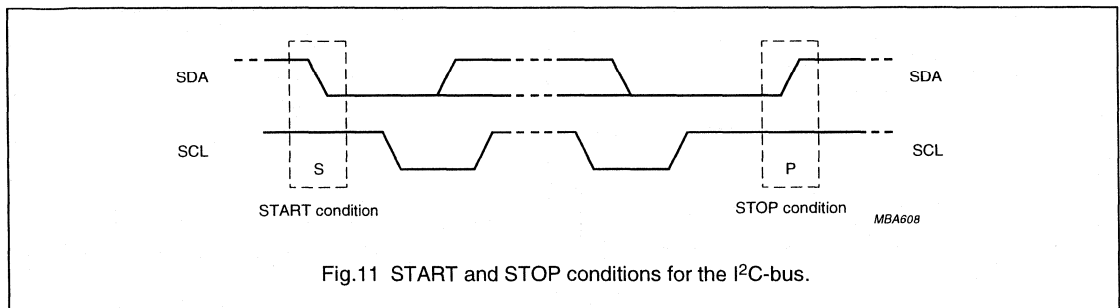

Fig.11 START and STOP conditions for the I²C-bus.
Both data and clock lines remain HIGH when the bus is not busy. A HIGH-to-LOW transition of the data line, while the clock is HIGH is defined as the START condition (S). A LOW-to-HIGH transition of the data line while the clock is HIGH is defined as a STOP condition (P) (see Fig.11).